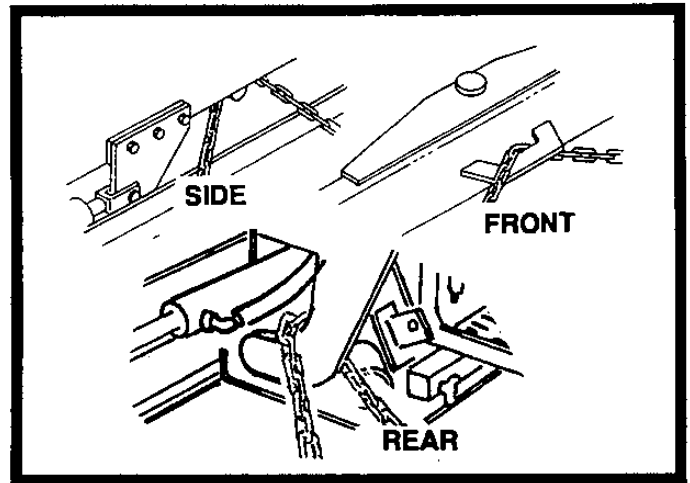

FIGURE 18
3. Refer to figure 18. Three tie down points are shown. Because of the varying characteristics of the truck bed or trailer bed in use, it is not practical to describe the correct method to chain the paver down. In all cases the front tie point should be used. Depending on the truck or trailer used, at least one of the other tie points should also be used.